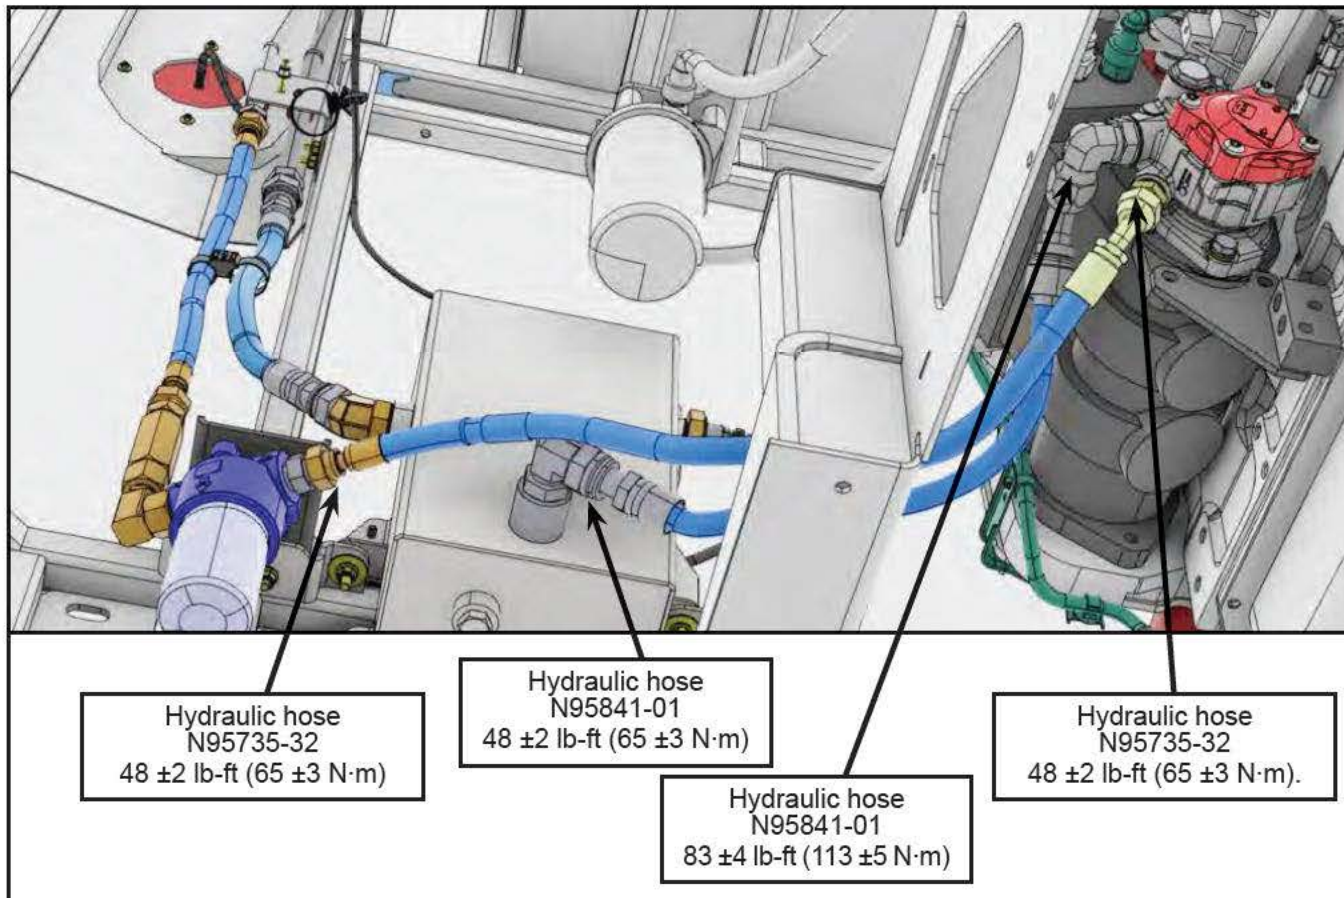

Figure 7 - Replace Hydraulic Hoses N95735-32 and N95841-01
- 1.19. Install the new hose N95735-32 between the hydraulic pump and the hydraulic oil filter. Tighten by hand. Install the new hose N95841-01 between the hydraulic pump and the hydraulic oil reservoir. Tighten by hand. Tighten to the torque values shown in Figure 7.